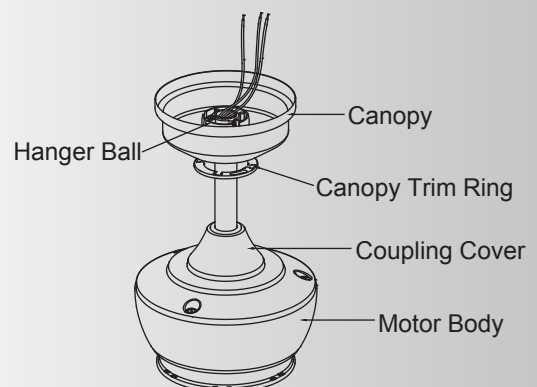

Fig. 8
**Step 4.** Slip the coupling cover, canopy trim ring and canopy onto the downrod. Carefully reinstall the hanger ball onto the downrod. Make sure the cross pin is in the correct position and the set screws are tight and the wires are not twisted. ( Fig. 8)